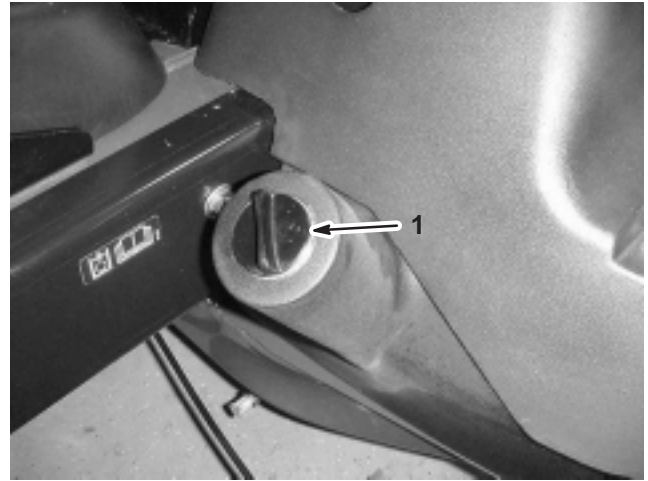

Figure 8
2. Clean the area around the filler neck and cap of the hydraulic tank (Fig. 8). Remove the cap from the filler neck.